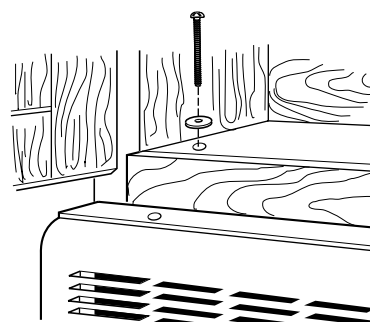

Figure 29
4. Place washers over two, 1/4"x3" bolts. Then insert a bolt down through each hole in the upper cabinet bottom. Tighten the bolts until the gap between the upper cabinet and microwave oven is closed. See Figure 29.